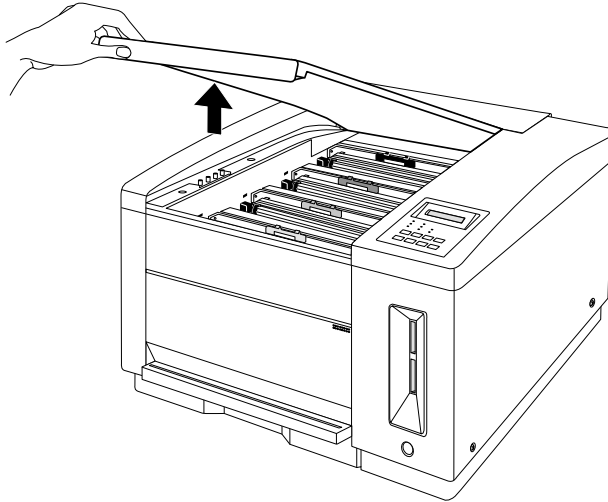

Fig. 2.5 Remove the Top Cover (front view)
6. Grasp the front end of the top cover and lift it up to remove it (fig. 2.5). Then, set the cover aside for now.